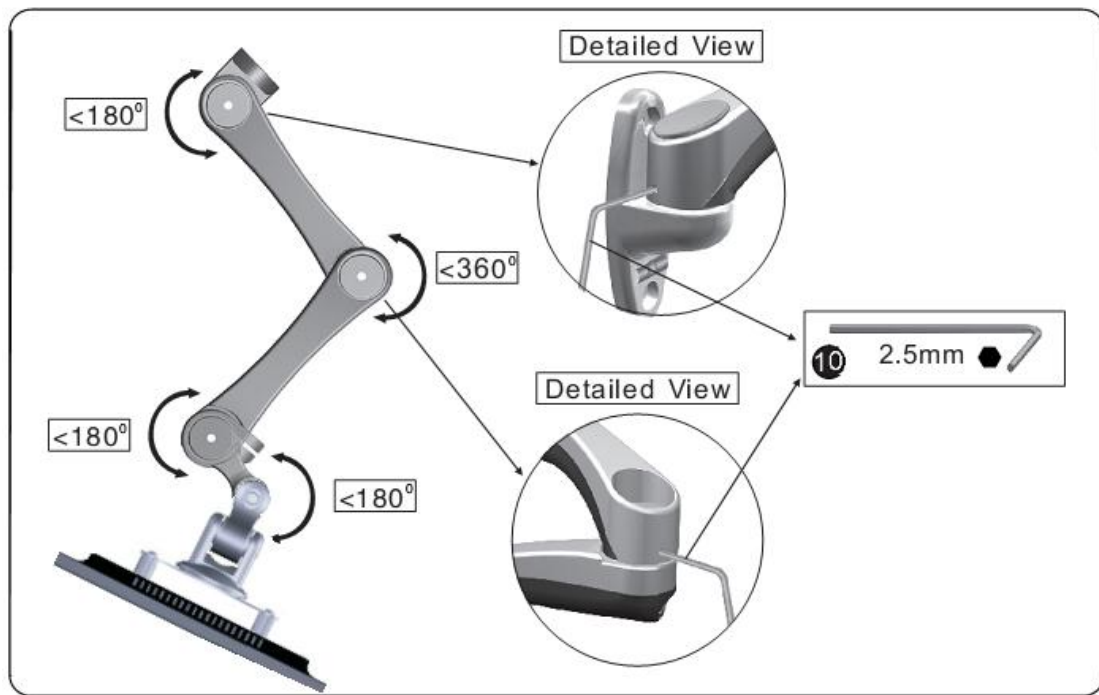

Figure 5-5
7. If this product tends to automatically move to the side, tension adjustment may be required on the LCD Arm to set your display monitor arm to the desired position. This can be done by using Hex Allen Wrench 2.5mm (10) (See Figure 5-5).